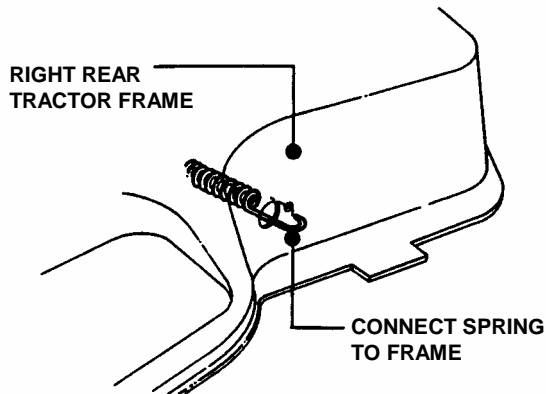

FIGURE 4.30
5. Attach tension idler spring to tractor frame. See Figure 4.30.